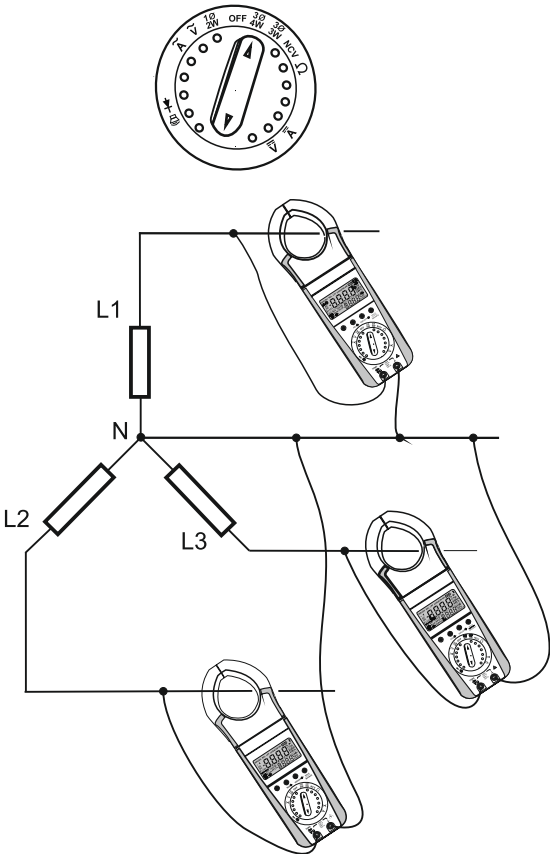

Fig 1.1.2 Connection diagram for 3ph4w unbalance load
- 2) Meter will show L1-n and I -1 on display . Connect meter to phase L1 as shown in fig1.1.2 (step 1).